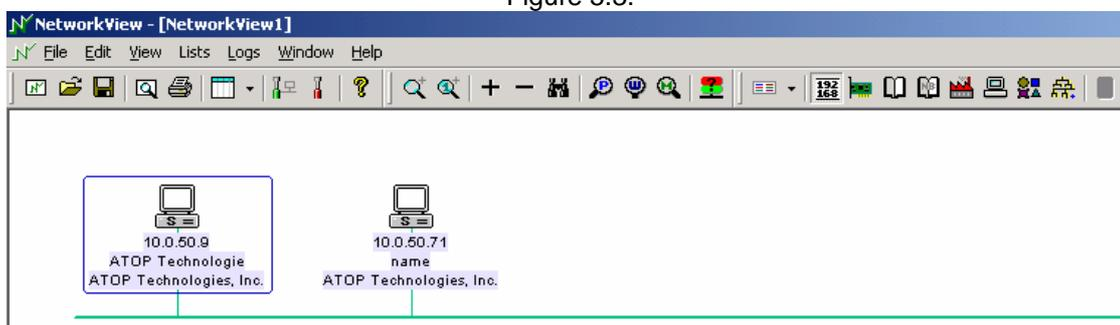

Figure 5.3 Network View- main window
2. After the search is completed, NetworkView will display the devices found on the main window, as shown Figure 5.3.